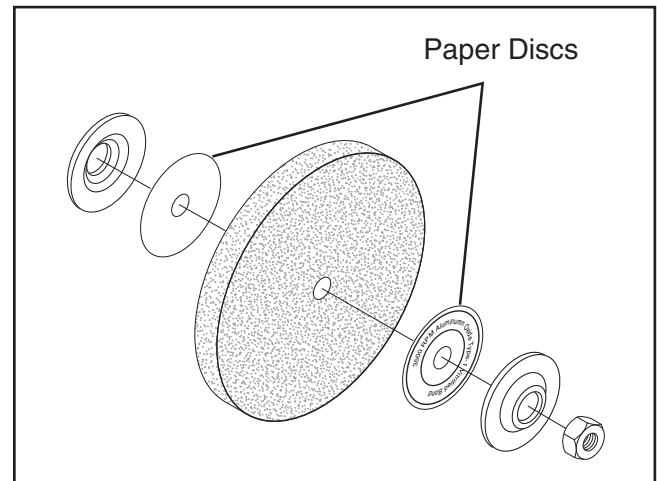
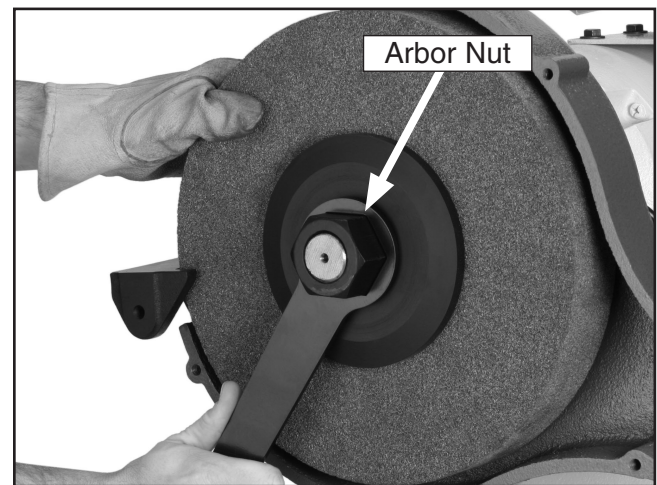

Figure 7. Assembly order for wheel installation.
Figure 8. Nut removal/tightening.
5. Mount the new wheel as shown in **Figure 7**. Always make certain there is a paper or fiber disc between the wheel flanges and the wheel itself. Tighten the nut snugly but **DO NOT** over-tighten. Over-tightening can crack the wheel (see **Figure 8**).